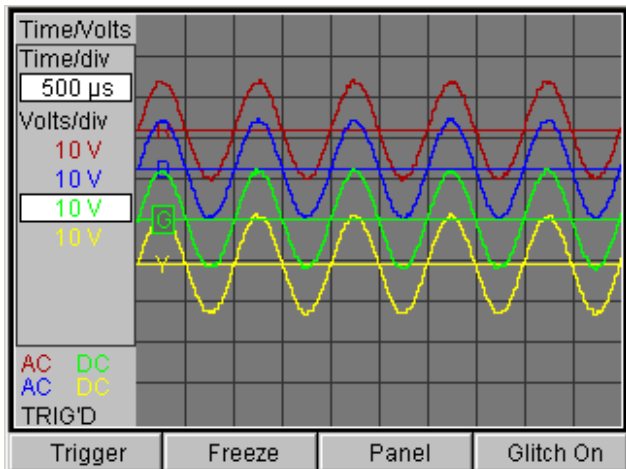

Figure 7.26: Lab Scope Screen, DMM Off - after adjusting Volts/div Field (the selected color is green and the selected field is the green zero offset line)
- a Press the **Down Direction** key to move the waveform line in the graph for the currently selected color. You know the line is selected when the letter has a box around it that is shaded, as shown in Figure 7.26 for the color green.